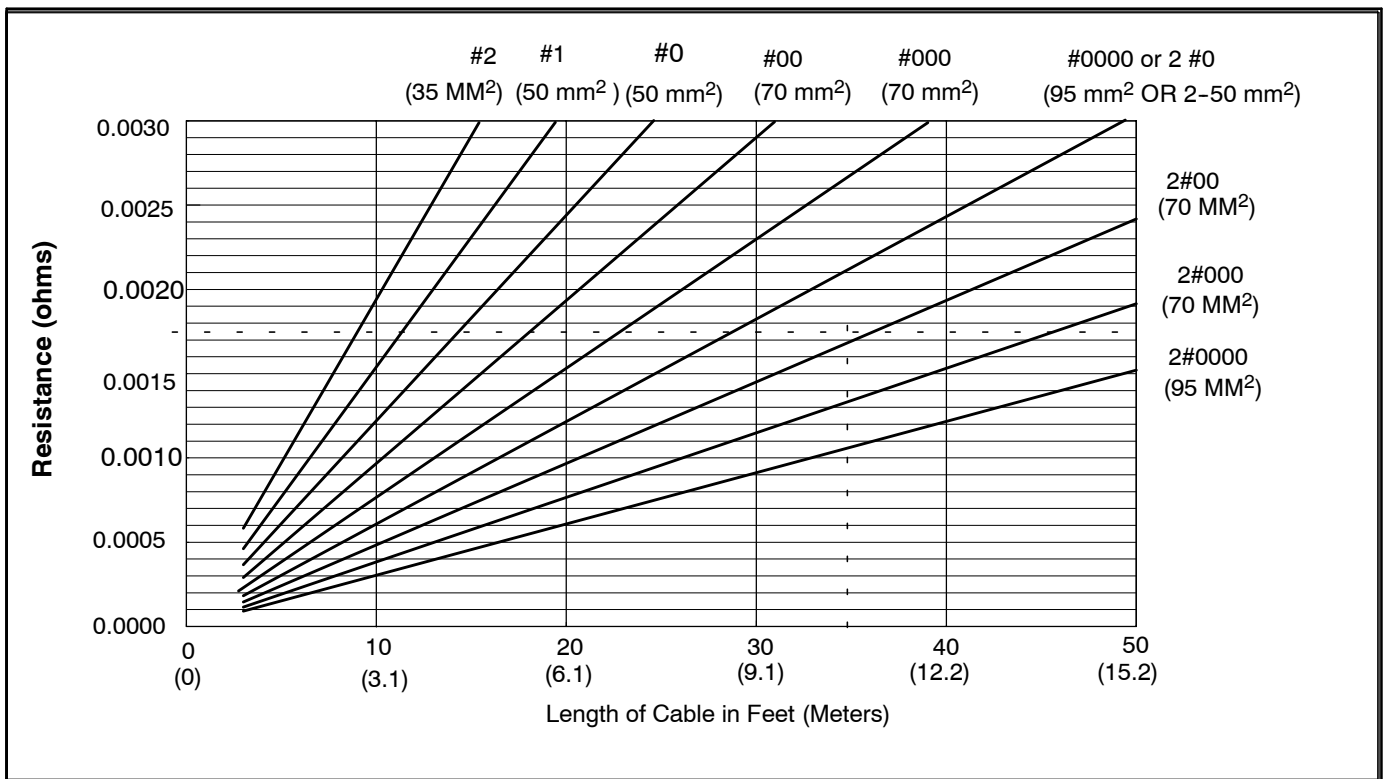

FIGURE 4-3. RESISTANCE VS LENGTH FOR VARIOUS AWG (MM²) CABLE SIZES
4. Refer to figure 4-3 for the American Wire Gauge (AWG) or mm² cable resistances, which shows by the dashed lines that the smallest usable cable size is two #00 cables in parallel.